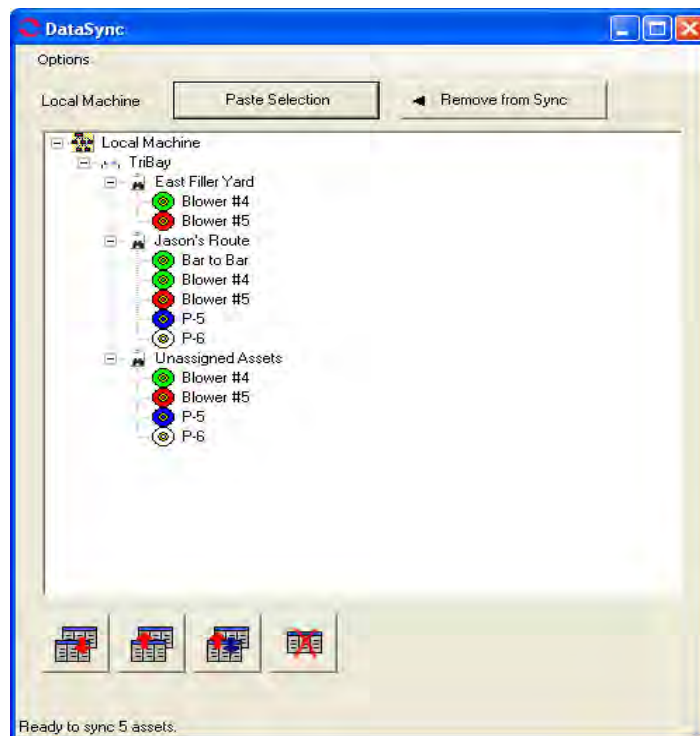

Figure 4-43: DataSync Window
6. Click **Paste Selection** on the DataSync window. A list of the selected assets will appear in the DataSync window. See Figure 4-43. If you need to remove one or more assets, highlight the asset and click **Remove from Sync**. When you are satisfied with the assets in the list click the DownSync button  at the bottom of the window.